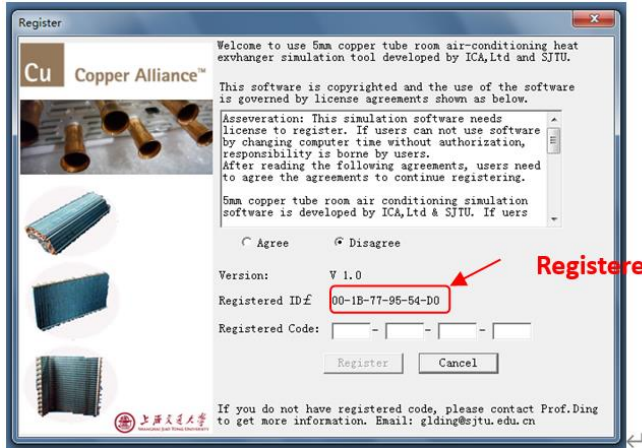

Fig.1
- ✓ Run HXSim.msi, the following dialog will pop out for register as shown in Fig.1. Send the registered ID via email to [yyli@craheta.org](mailto:yyli@craheta.org), you will get the registered code within 1-2 days.